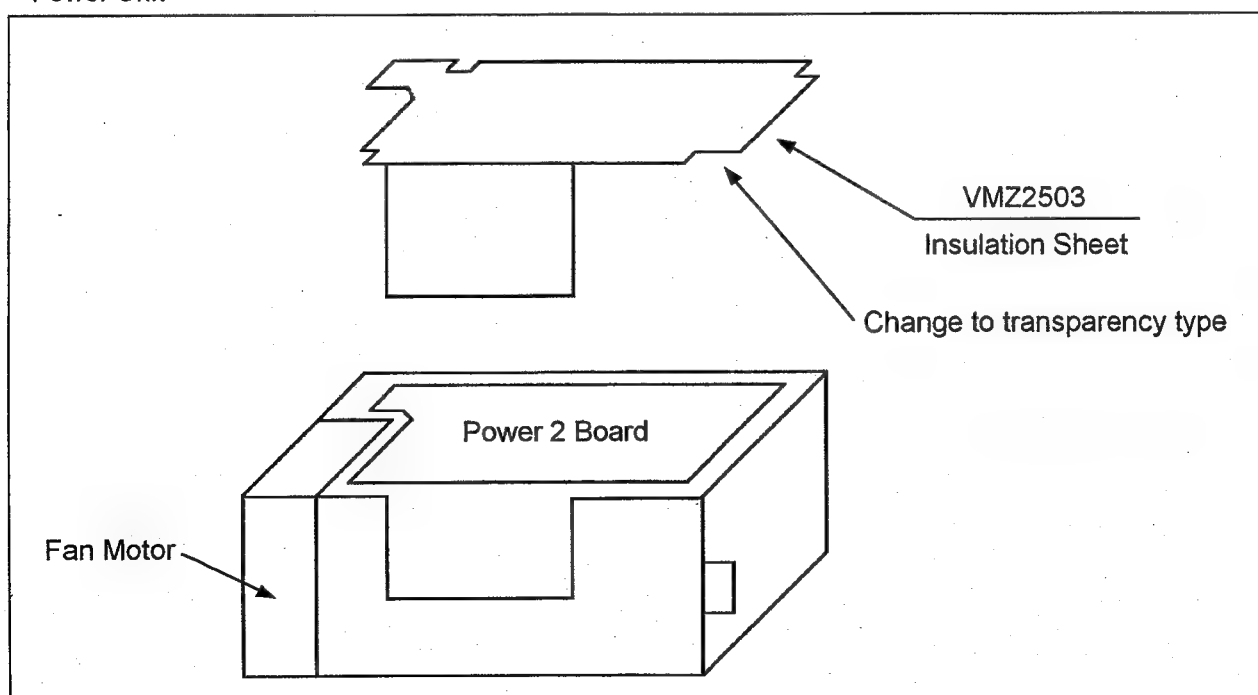

Fig. 7
- 4). After installing the Power 2 Board, the insulation sheet (VMZ2503) is changed to transparency type on the component side as shown in figure 7.
- 5). After installing the Power 2 Board, the insulation sheet (VMZ2503) is changed to transparency type on the component side as shown in figure 7